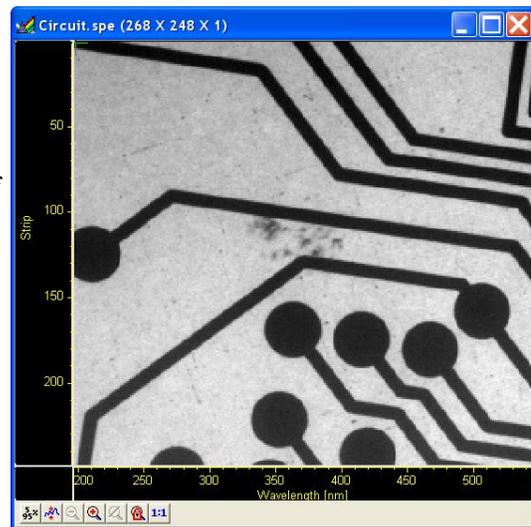

Figure 93. Circuit.spe Image
- From the data directory select the image file called CIRCUIT.SPE. Click on the **OK** button. A window of the appropriate dimensions should appear immediately. The image display (Figure 93) may take a few seconds, depending on the speed of the computer.
- Click on  (5%-95%) (located beneath the displayed image as shown in Figure 93). You will observe a moderate brightening of the image as it autoscales on the central 90% of the image histogram. The brightest (pixels with high dark charge) and the darkest pixels (pixels with low response) are ignored.